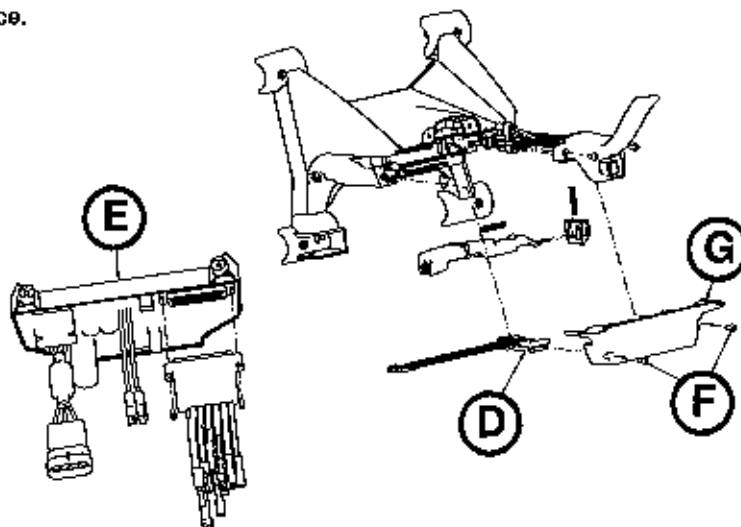

Figure 117
6. Unplug the black and red wires that connect the cot connector cable assembly (D) to the control board (E) (Figure 117).
7. Using a T20 Torx driver, remove the two delta screws (F) from the bottom plate of the foot end enclosure (G) to remove the enclosure (Figure 117). Save all parts for reinstallation.